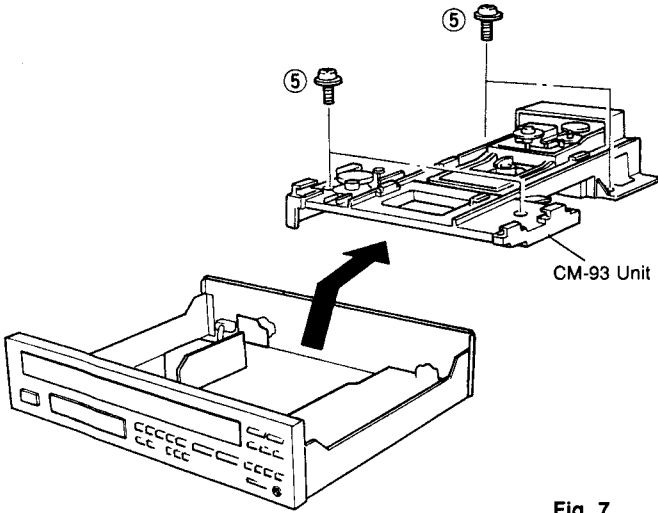

Fig. 7
- a. Remove 4 screws (⑤) as shown in Fig. 7.
- b. Take out the CM-93 Unit out slowly as shown in Fig. 7.